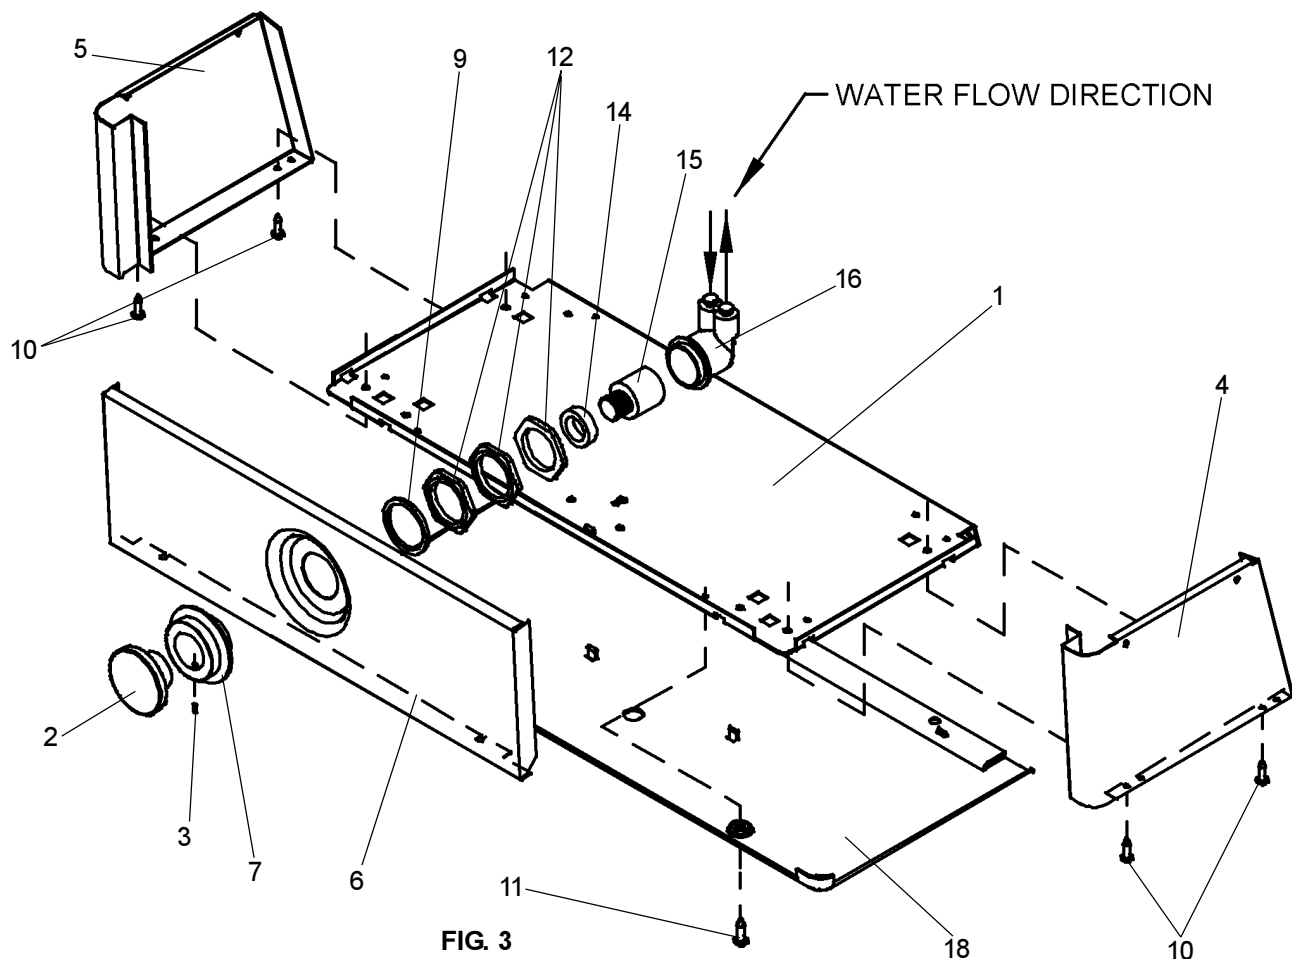

FIG. 3
- 8) Stream height is factory set at 35 PSI. If supply pressure varies greatly from this, adjust screw on regulator (item 15), accessible by removing push button (Item 2, Fig. 3). CW adjustment will raise stream and CCW adjustment will lower stream. For best adjustment, stream should hit basin approximately 6-1/2" (165mm) from bubbler.